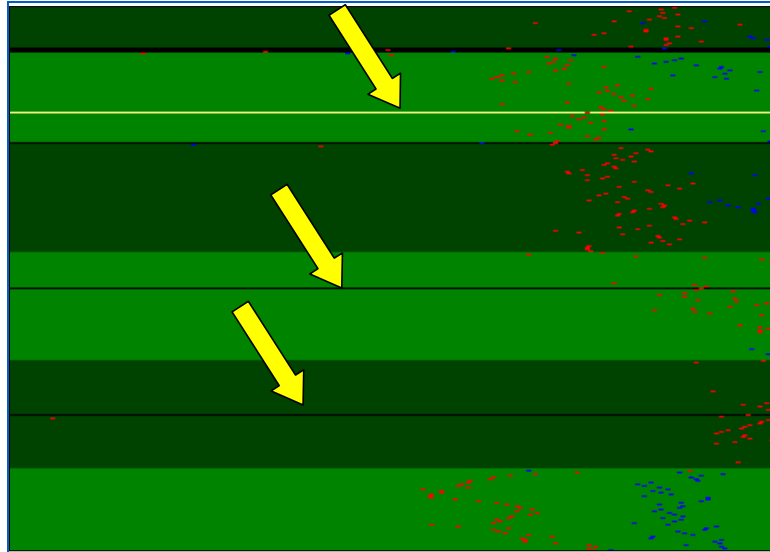

Figure 196: Mapped Channels
6. The position of the mapped out channel will be highlighted by a black horizontal line (Figure 196 shows both the moved yellow line and two black lines from previously mapped channels).